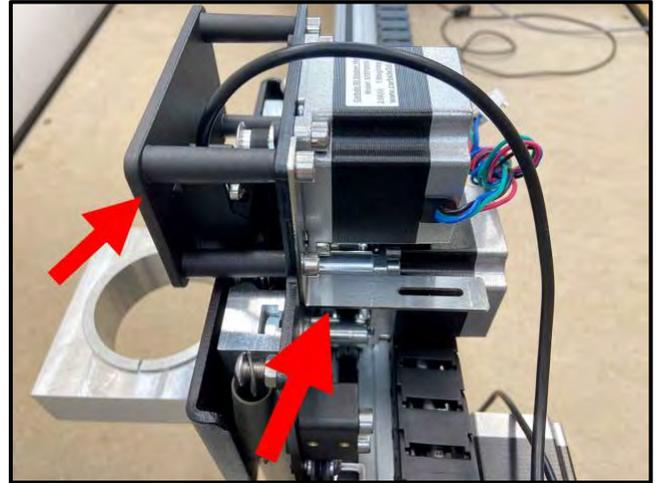
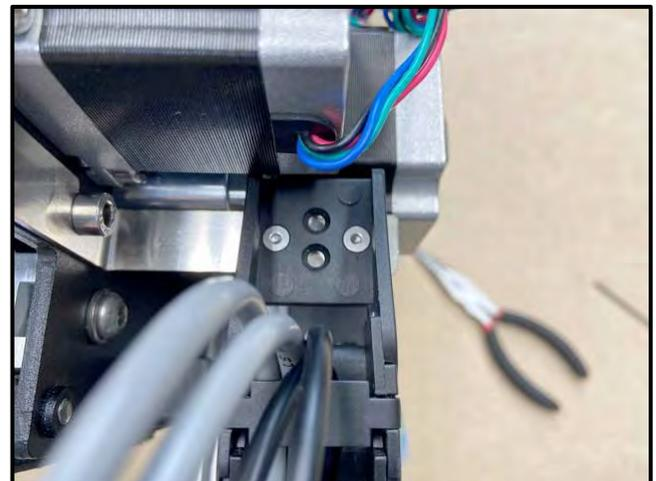

Figure 15
Figure 16
- d. Use a 2.5mm hex key and two (2) M3×18mm SHCS to secure.
2. Install the Z-Axis proximity switch mount to the front the X-carriage. See **Fig. 15**.
- c. Use a 4mm hex key and four (4) M5×10mm SHCS to secure the mount to the front of the X-carriage.
1. Install the X-Axis drag chain head bracket to the rear of the X/Z-carriage. See **Fig. 15**.
- b. Use a 4mm hex key to tighten the two (2) M5×10mm SHCS.
2. Secure the head of the drag chain to the X-Axis head bracket. See **Fig. 16**.
- b. Use a 2mm hex key, needle nose pliers, two (2) M3×8mm FHS, and two (2) nyloc nuts to secure.